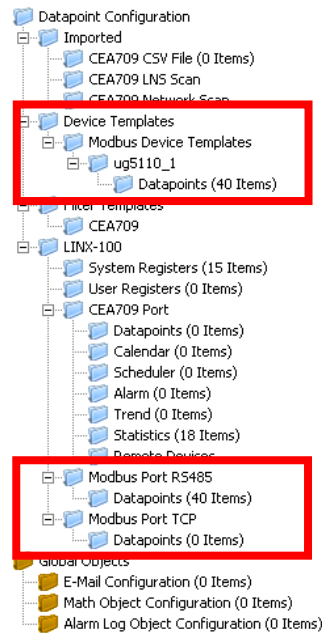

Figure 187: Data Point Manager Dialog with Modbus folder list.
- The folder list (Figure 187),